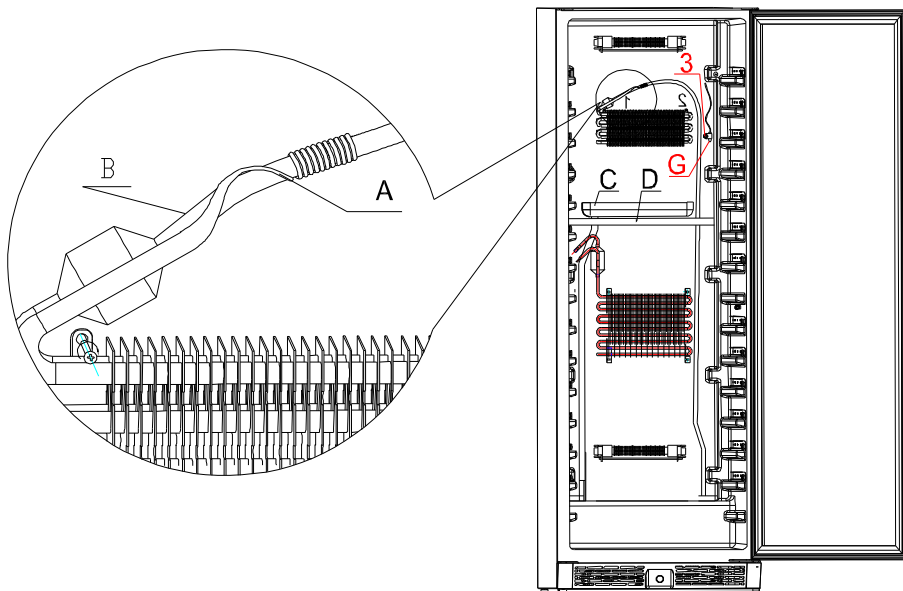
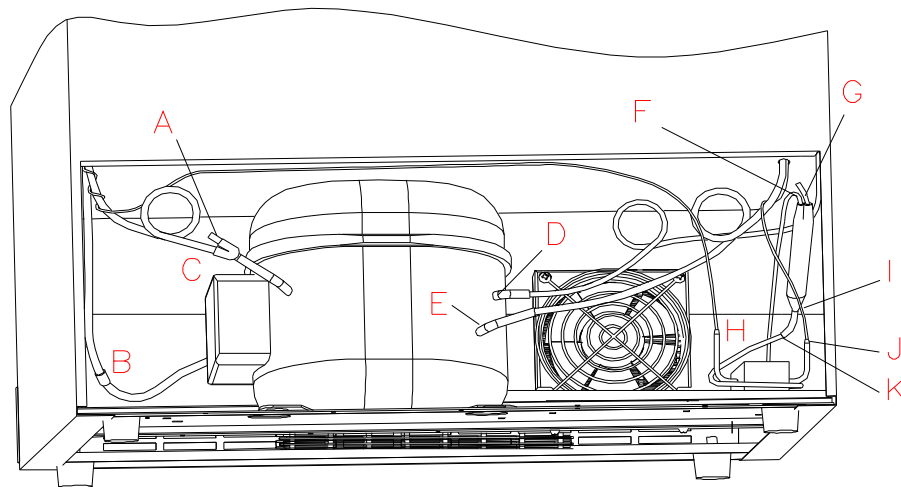

Fig. 3
Fig. 4
Turn on the unit and check there is electricity current flowing to the compressor using a caliper type Amp meter, the current should be within 0.6 to 2 Amps. If the readings are not in this range, turn off and cut off the pipes (See Fig.4 showing D) and the process pipe (See Fig.4 showing A.) from the compressor, then turn the unit on again (**in this case only run the compressor for a few minuets, so as to avoid the compressor absorb moist air**) and recheck the current and if there is pressure at the outlet pipe. If the current reading is still out of range specified above and no pressure from the compressor outlet, replace the whole compressor.
b. Infill 0.8-1MPa nitrogen, and check the welding point around the compressor (→5) (Fig.4 ) with soap water. If there isn' t any leakage, please take apart the air-duct board(→3、 →4) (Fig.2.1 & Fig.2.2 & Fig.2.3 & Fig.3) and check the welding point around the evaporator(→4)(Fig.3 ).
1>. Using the vacuum pump form a vacuum in the system, via the joint of the low-pressure process pipe on the compressor(→5) (Fig.4 showing A), the high-pressure pipeline is on the process pipe of the filter(Fig.4 showing G). Apply the vacuum pump for approximately 20 minutes. Until the vacuum is lower than 100Pa. Then solder the compressor process pipe of the filter. Keep the vacuum running while soldering this joint
2>.Fill Cooling system with refrigerant via the process pipe(→5 ) (Fig.4 showing A). (The refrigerant is R134a. Regarding refrigerant quantity Please refer to the instruction at back label of wine cellar). Then solder the compressor process pipe after the system is charged with refrigerant.
d. The scene after taking away the air-duct board show below. the evaporators are same. (Fig.3 )
○ Front side joints location. See (Fig.3 )
○ Rear side view of the joints position (Fig.4)
1>. Heat the soldered joint of the capillary (“A” of Fig.3), then remove the capillary from the evaporator and smooth the end with an eraser. (Caution: do not allow any particles into capillary unit)
2>. If the capillary touch the inner cabinet and the air duct board, adjust the position of the capillary and add the incabloc plastic. (→4) (Fig.3 )